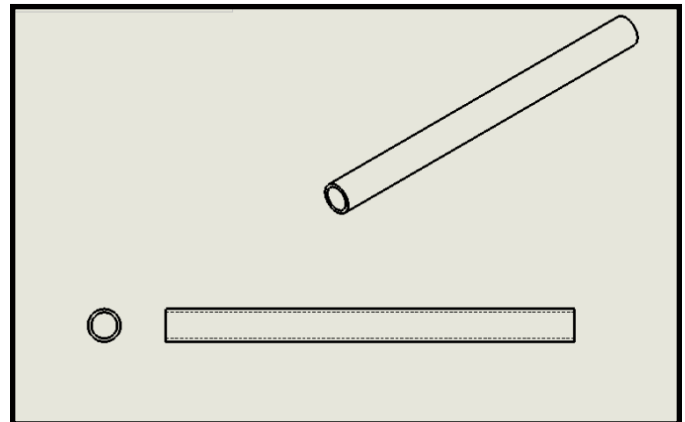

Figure 3.19 - Quiz - Object Two
2. Does the drawing in figure 3.19 have the correct marking and lines? Hint: First check visible line, then hidden lines, and then centerline or marks or for each view.